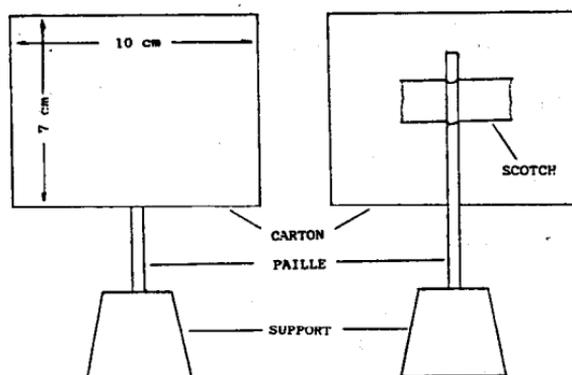

Figure 3
- plaques en carton cf. figure 3.